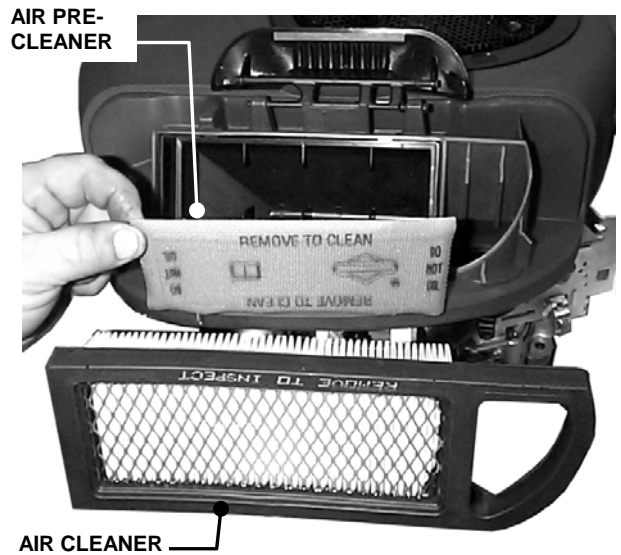

FIGURE 3.6
2. Refer to engine owner's manual for cleaning and service instructions. Remove and clean engine air pre-cleaner. Remove and replace engine air cleaner. See Figure 3.6. Install pre-cleaner and air cleaner per engine owner's manual.